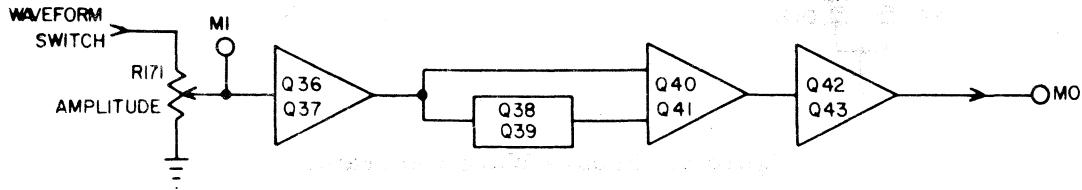

Figure 6. Plus Output Amplifier
**4.5 PLUS OUTPUT AMPLIFIER (See Figure 6)**